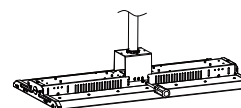

Figure 3
- Step2. Lock fixture on the bracket (Figure 3);